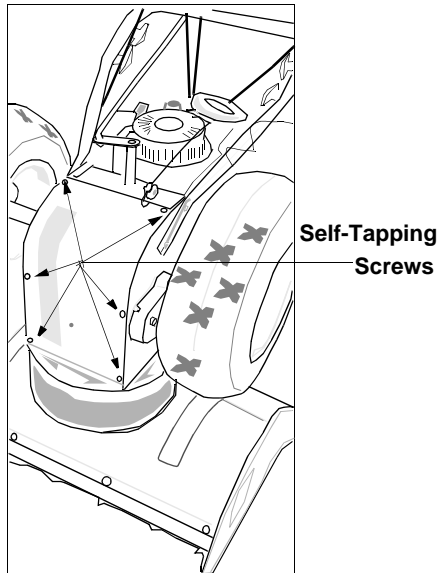

Figure 29
- Remove six self-tapping screws from frame cover underneath the snow thrower. See Figure 29.
- Remove six screws from the frame cover underneath the snow thrower. See Figure 29.